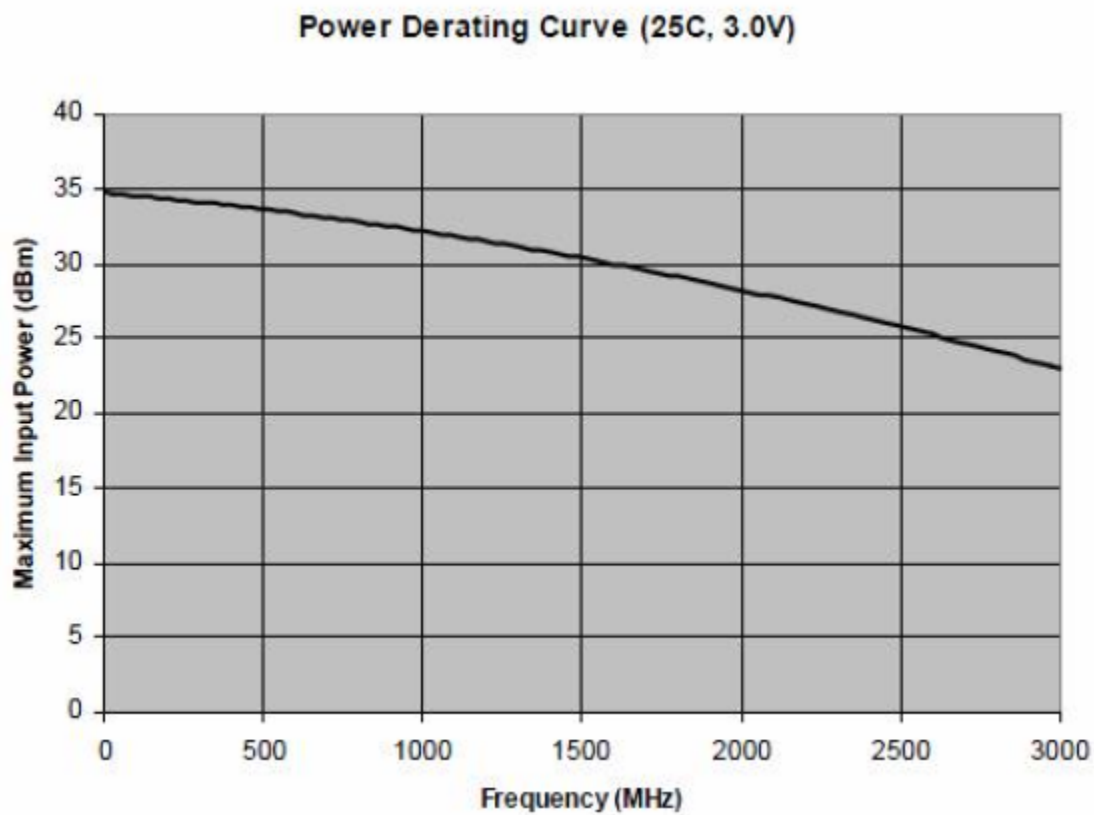

Figure 2. PE42421 power de-rating curve
1. To maintain the optimum system performance, do not exceed the maximum input power (P_{IN}) at the preferred operating frequency, as shown in Figure 2.